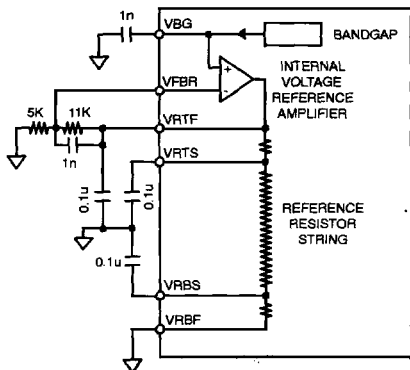
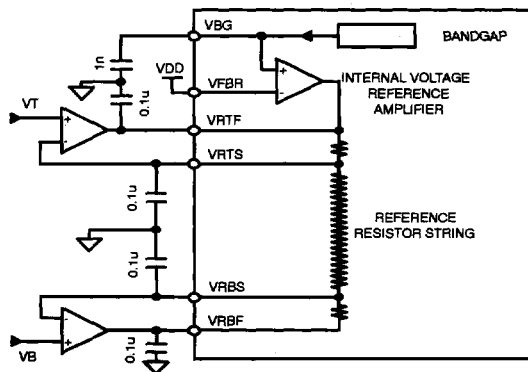

Figure 10. Circuit Diagram with Internal Amplifier
Figure 11. Circuit Diagram with External Amplifier
Proper setting of the voltages VRBF and VRTF is necessary to achieve full 10 bit dynamic range. VRTF can be set using either the internal voltage reference amplifier, or using an external buffer (see Figure 10. and Figure 11.) If using an external buffer, VRTS can be set more precisely by using VRTS as feedback to the external buffer. Likewise, VRBF can be forced with an external buffer, using VRBS as feedback. When not using the internal voltage reference amplifier, it must be disabled by connecting VFBR to VDD. This will not cause a conflict between the internal amplifier and the external buffer - the internal amplifier's output will become high impedance when the voltage on VFBR is higher than on VBG.
The values in Figure 10., for example, would give VRTF = 3.968v = 1.24v x (1 + 11K/5K)
VRTS can be set more precisely by using an external buffer and known reference voltage VT (see Figure 11.)
For minimum use of external components, VRBF can be tied to ground (see Figure 10.) However, if a more precise VRBS voltage is needed, or if the minimum
expected voltage of VIN is not close to ground, then an external buffer and known reference voltage VB can be used (see Figure 11.) VINR can be tied to VRBS, and VRBS set with an external voltage source VB such that VRBS is at the expected minimum voltage of VIN.
- 4) Place 0.1μF power supply filtering caps as close to the power supply pins on the XRD6440 as possible. The connection from the caps to the ground plane should also be as short as possible. The same holds true for the caps shown in Figure 10. and Figure 11.